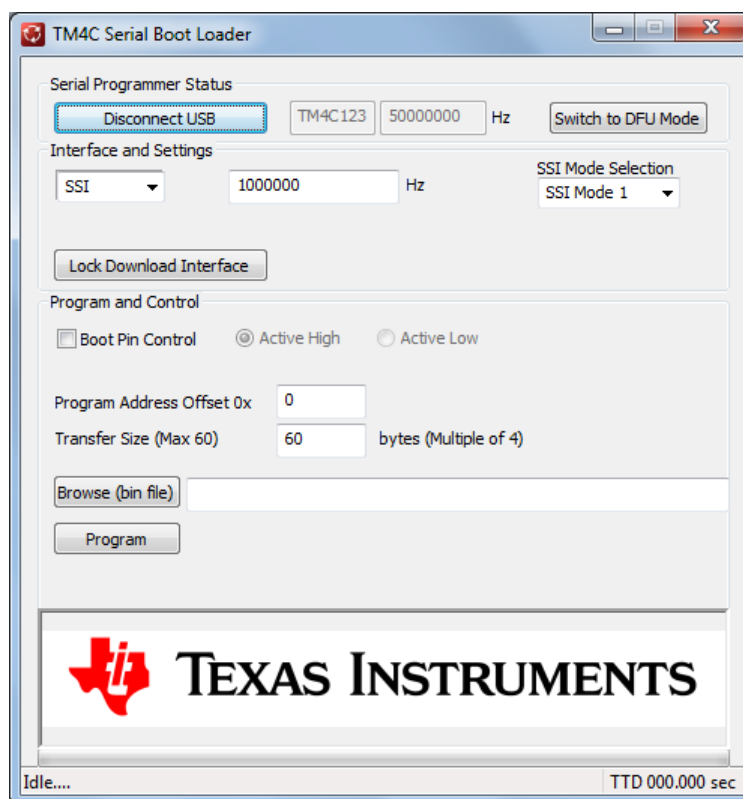

Figure 37. GUI View on USB Connect
1. Click on the “Connect USB” button. The GUI changes if the programmer board connects, as shown in Figure 37. The LED’s on the programmer board are not lit anymore.